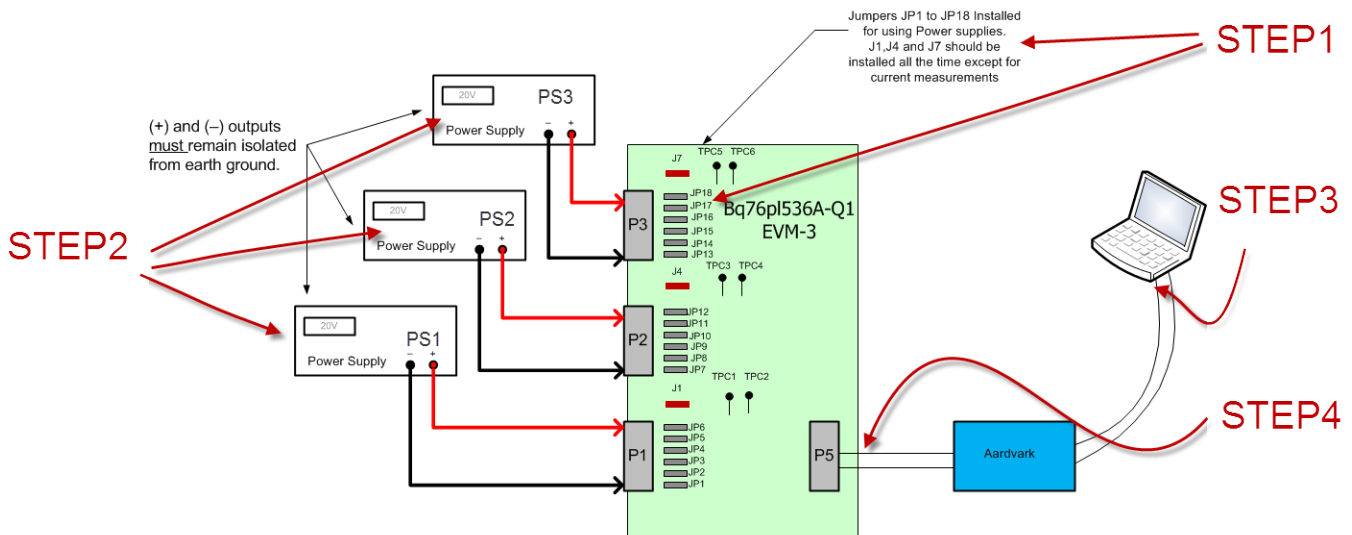

Figure 19. bq76PL536A-Q1 EVM-3 Test Setup
**NOTE:** Other power schemes, such as using a single power supply, do not provide the correct level of power to the devices under test. Making the connections as the following Figure 19 shows using three isolated supplies is important.